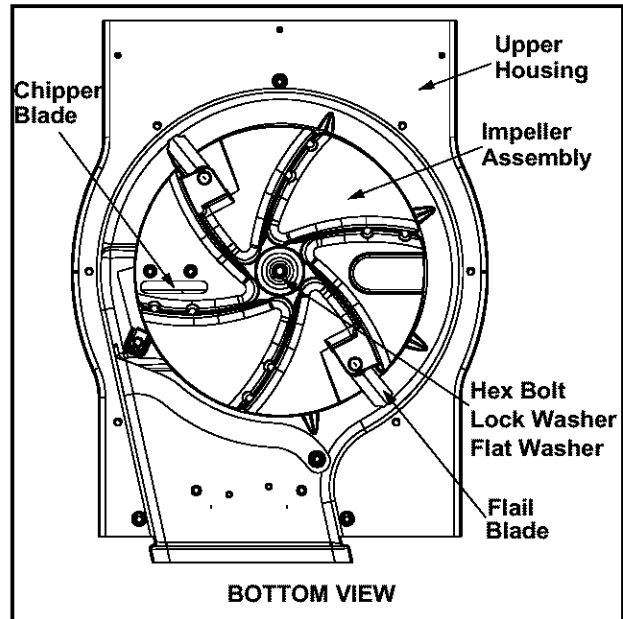

Figure 16
- Remove the hex bolt, lock washer, and flat washer that secure the impeller assembly to the crankshaft. See Figure 16.